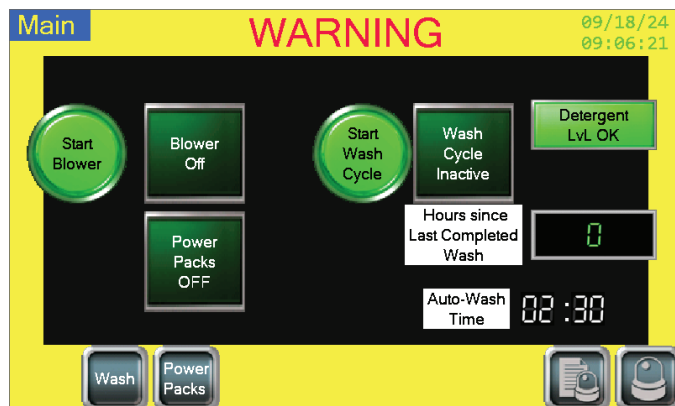

FIGURE 24. Warning Event
2. A Warning Event will cause the borders of the screens to turn yellow as shown in Figure 24.